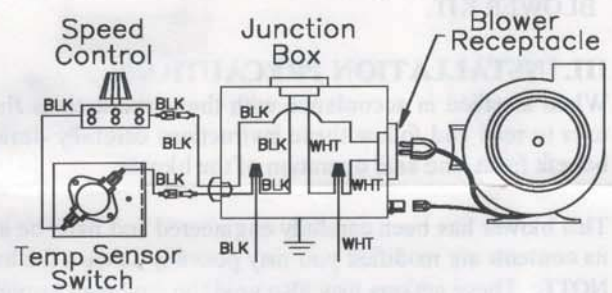

Fig. 5
3. Using the wires provided, connect the variable speed control and temperature sensor switch to the junction box. (Reference the wiring diagram, Fig. 5)